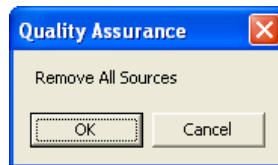

Figure 5-24
8. Click the **Start Procedure** button or press *Alt+S* to start the test. The screen appears as shown in Figure 5-24.